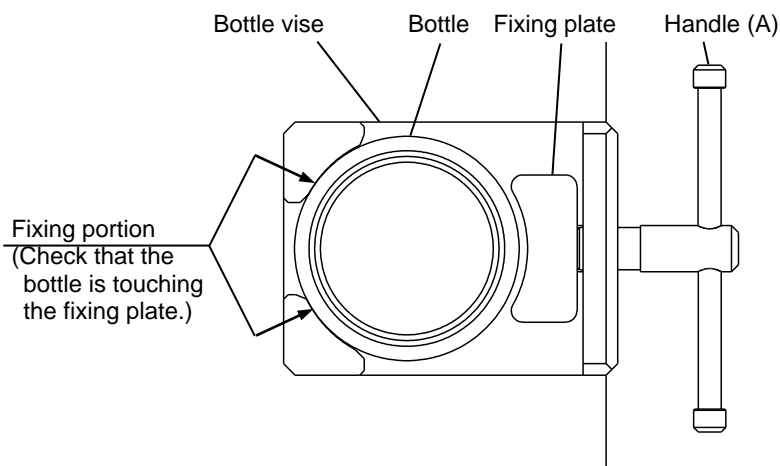

Fig. 4-2
- (3) Push the bottle against the fixing portion of the bottle vise and turn the handle (A) clockwise to move the fixing plate until the fixing plate touches the bottle lightly. (Fig. 4-2)